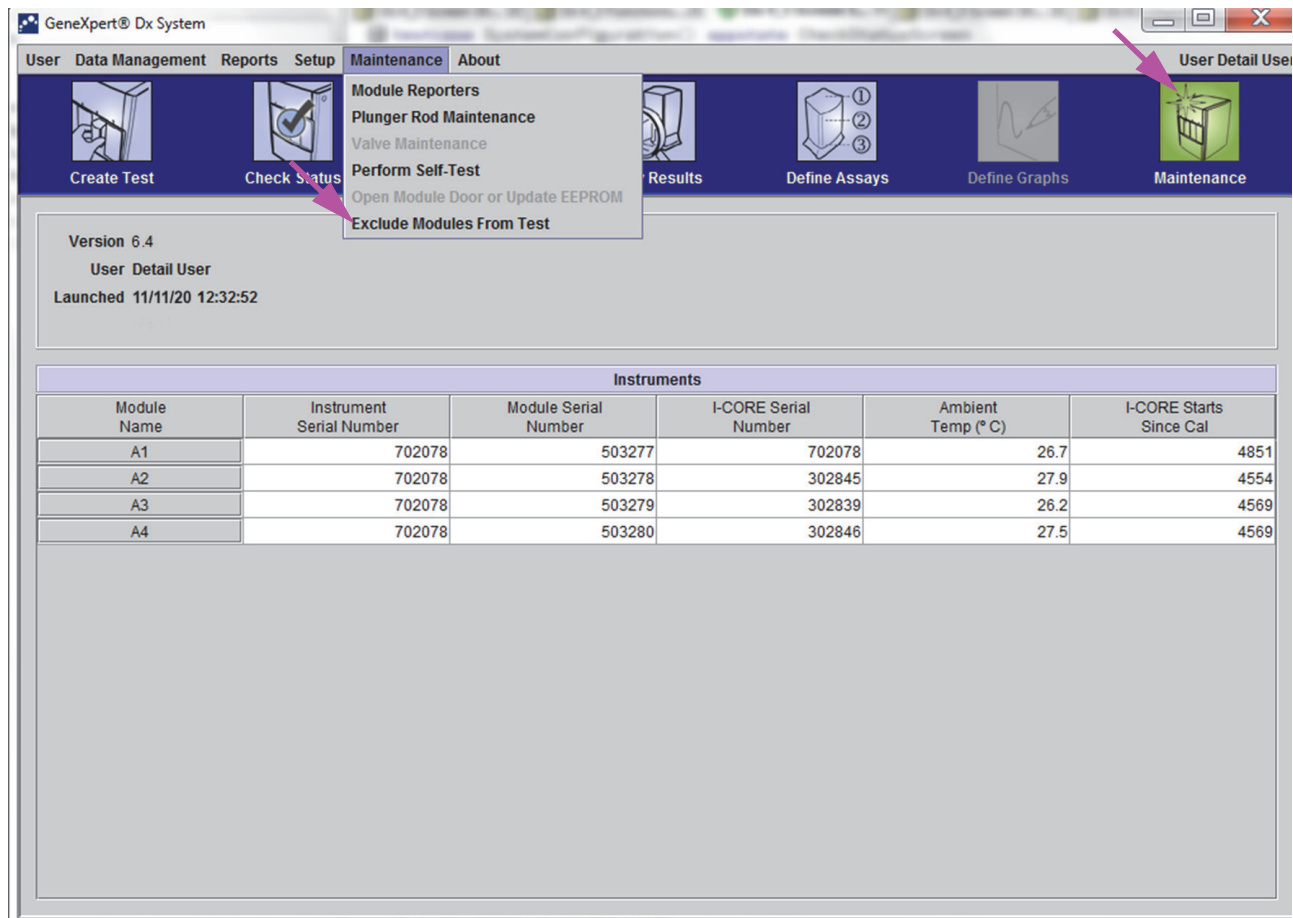

Figure 9-15. GeneXpert Dx System Window
2. In the GeneXpert Dx System window, click the **Maintenance** icon. The Maintenance screen appears. See Figure 9-15.
1. In the GeneXpert Dx System window, click the **Maintenance** icon. The Maintenance screen appears. See Figure 9-15.